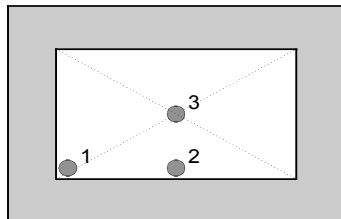

Figure 6
The position in the aperture also affects the sensitivity (see figure 6 & 7). The centre line axis (3) is the least sensitive point and therefore this is where performance testing should take place. As metal gets closer to the sides and coils (1 & 2), the signal it generates gets larger, making it easier to detect.